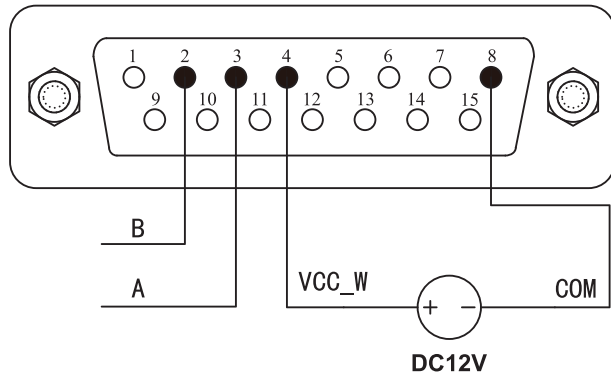
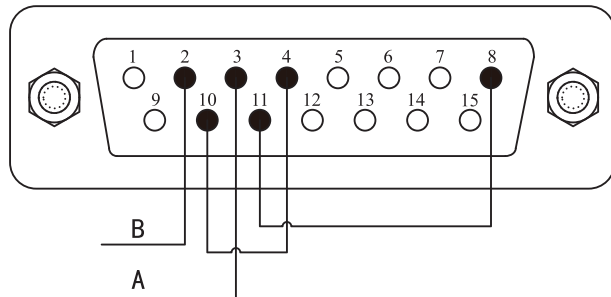

Figure 20 Communication External 12V Power Supply Wiring Diagram
Figure 21 Communication Internal 12V Power Supply Wiring Diagram
- With the power supply disconnected, refer to Figure 20 or Figure 21 for wiring. Then connect the DB15 interface to the back interface of the pump.